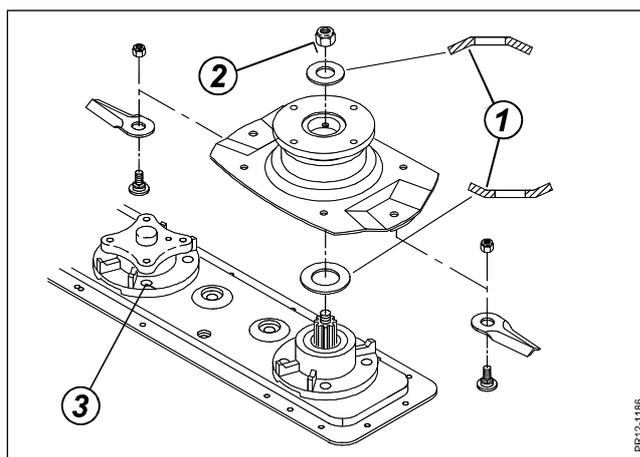

Fig. 5-12
- Fig. 5-12 The spring washer (1) above the input disc is placed as shown with the curved side upwards.